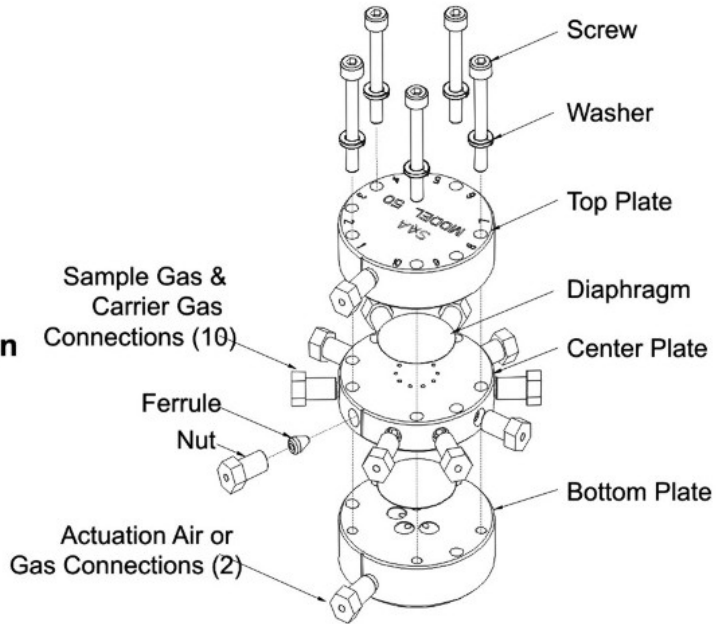

Figure 4-29: Exploded View of Model 50 Valve
Valve Removal and Disassembly (see Figure 4-29)
5.	Remove the valve from the oven by unscrewing the two M3 x 35 socket head cap screws securing the Model 50 Valve. These mounting screws are located between ports 2 and 3 and ports 8 and 9. Refer to Figure 4-29 for port locations.
7.	Place the valve bottom plate on a lint free cloth. Using a 2.5 mm Allen wrench, remove the five component socket head fastening cap screws. Refer to Figure 4-29.